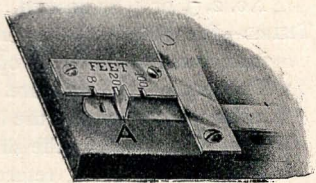

FIG. 2.
3. At the front of the camera bed, and on the side opposite the finder, you will see a scale with slots marked 8, 20, and 100 feet. Fig. 2. This is for focussing the camera. Before extending the bellows set the catch A in the slot corresponding to the distance of the principal object to be photographed.